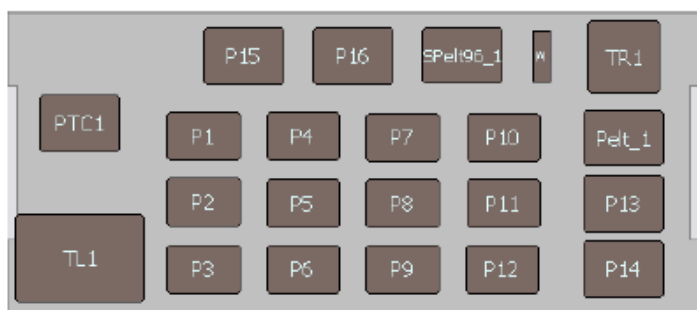

Figure 25 Empty deck positions.
- Figure 25—Location names of empty deck positions
^[1] See Figure 25 for empty deck positions.